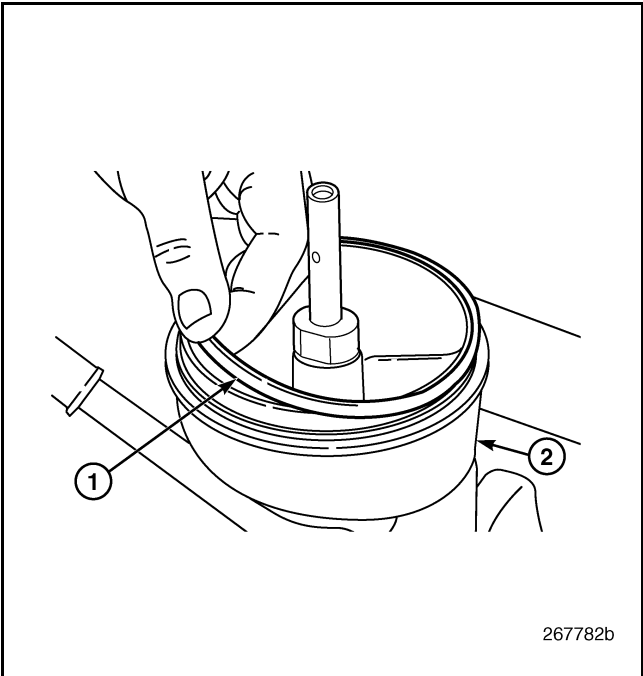

Figure 115 — O-Ring Installation
6. Install a **new** O-ring on the filter housing base (Figure 115). The O-ring should be installed dry, non-lubricated.